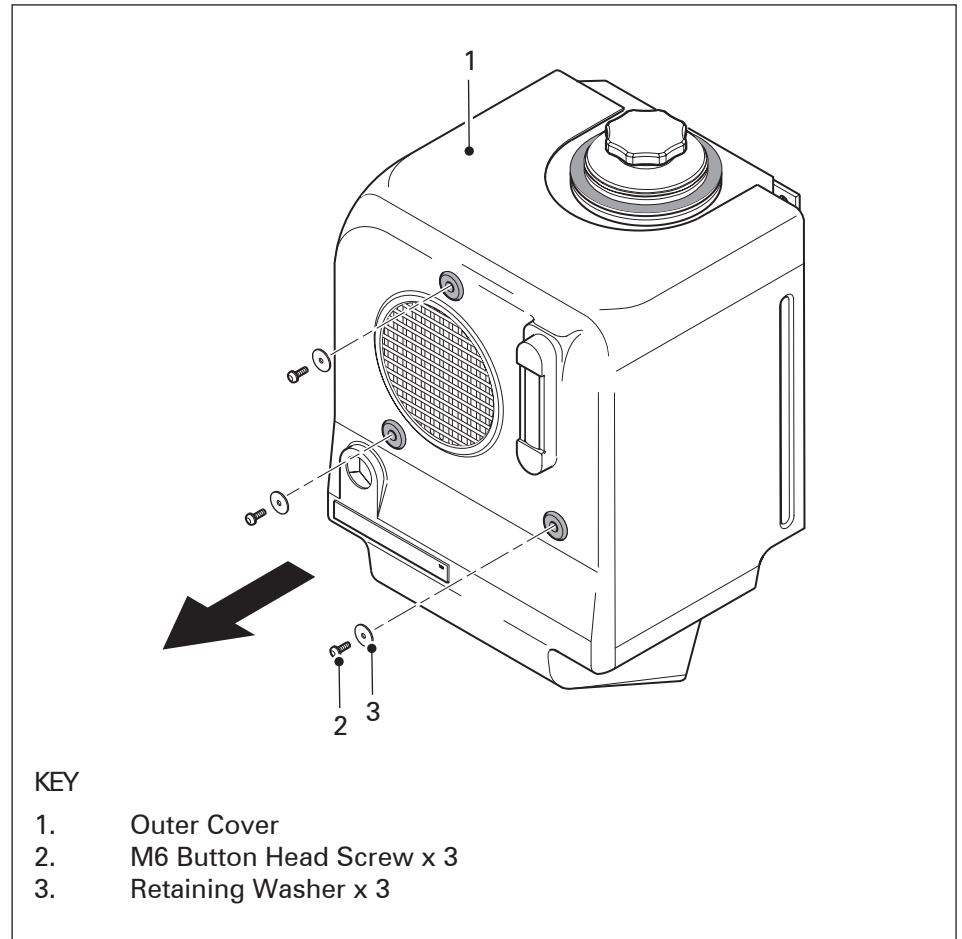

Fig. 9 Removing the Outer Cover
1. Unscrew and remove the 3 x M6 button head screws (item 2) and washers (item 3) from the front face of the outer cover.
2. The cover is now free to be pulled away from the aluminium tank Fig. 9.